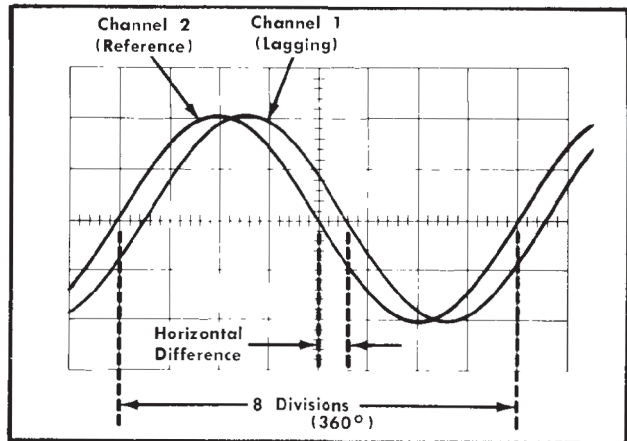
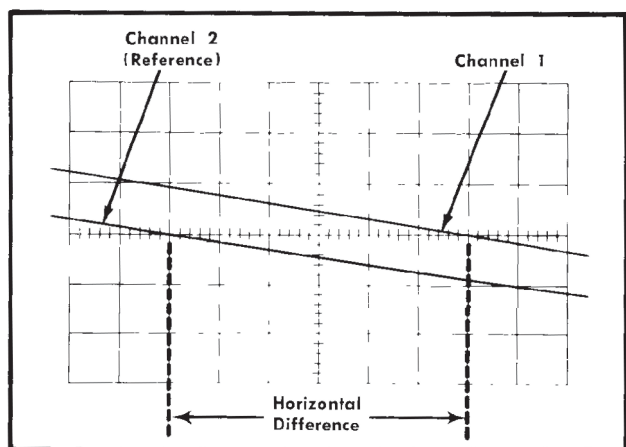

Fig. 2-8. Measuring phase difference.
Fig. 2-9. High resolution phase-difference measurement with increased sweep rate.
10. Turn the variable sweep rate control until one cycle of the reference signal (Channel 2) occupies exactly eight divisions between the first and ninth graticule lines (see Fig. 2-8). Each division of the graticule represents 45° of the cycle ($360^\circ \div 8 \text{ division} = 45^\circ/\text{division}$). The sweep rate can be stated in terms of degrees as 45°/division.
Example. Assume a horizontal difference of 0.6 divisions with a sweep rate of 45° as shown in Fig. 2-8.
Example. If the sweep rate were increased 10 times with the magnifier, the magnified sweep rate would be $45^\circ \div 10 = 4.5^\circ/\text{division}$. Fig. 2-9 shows the same signals as used in Fig. 2-8 but with the magnifier switch set to $\times 10$. With a horizontal difference of six divisions, the phase difference would be: